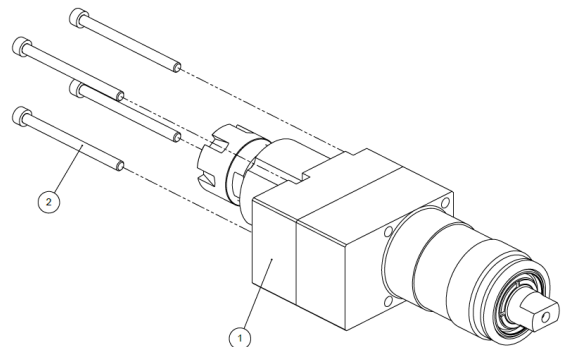
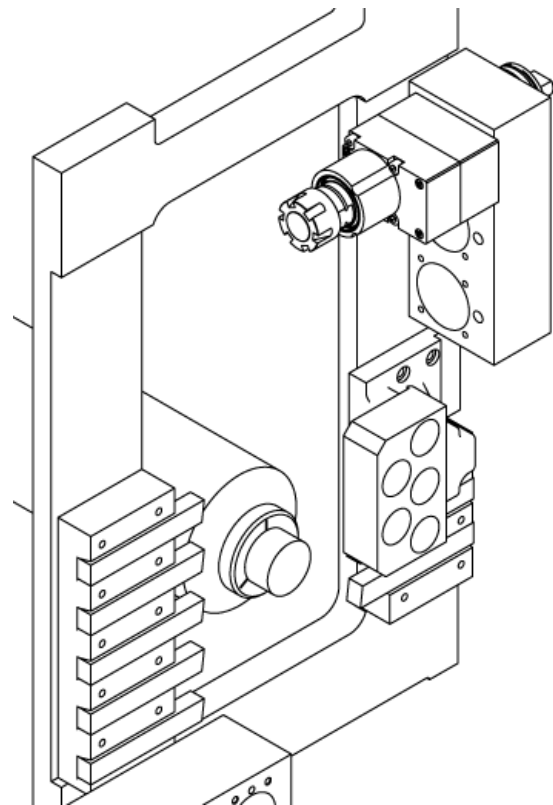

Figure 2
Figure 3
To fix the tool holder (fig. 1-2, pos. 1), center the shank (fig. 2, pos. 3) in the T11, T14 or T17 position of the machine (fig. 3). Tighten the 4 M5 screws (fig. 1-2, pos. 2).